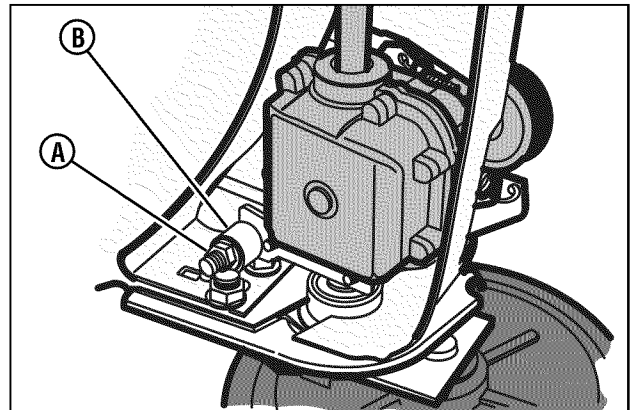

Figure 20: Setting the belt tension
- a. Tighten the adjuster nut (A, Figure 20) until the nut touches the spacer (B). Try to turn the spacer. When the adjuster nut touches the spacer, the spacer will not turn.